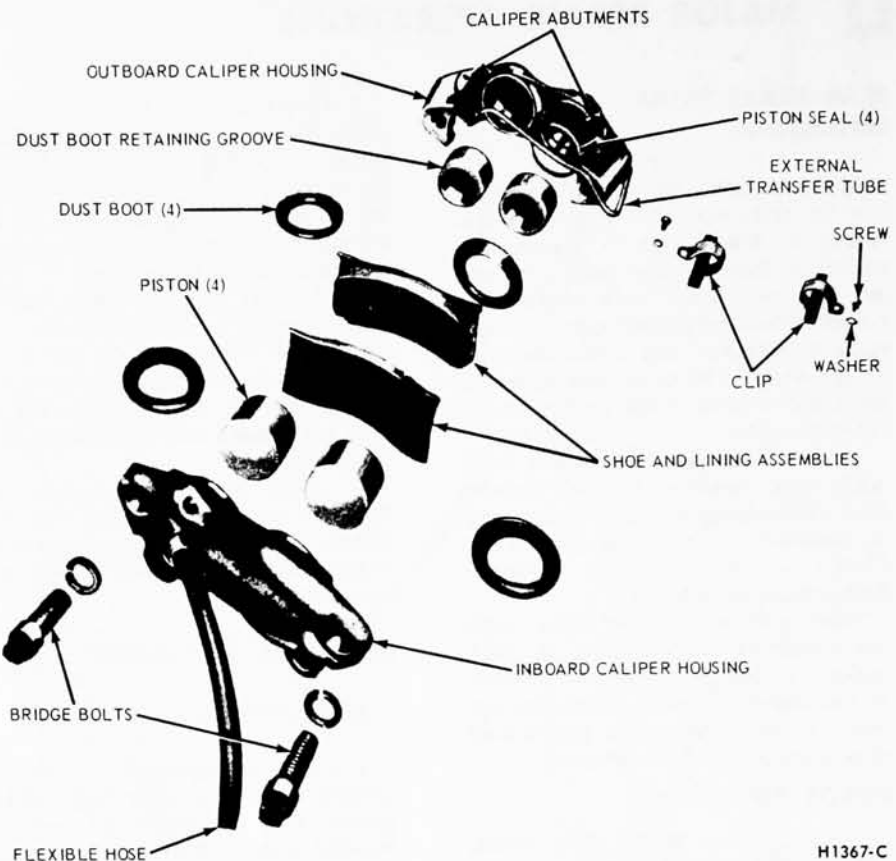

FIG. 22—Caliper Assembly—Disassembled
Do not remove the bridge bolts that hold the two halves of the caliper together. The two caliper housings are shown separated in Fig. 22 for illustration purposes only.
2. Remove the two attaching bolts and the caliper splash shield (Fig. 22).
If a piston is so completely seized in the cylinder bore that it can not be removed with the special tool, force the cylinder out of the bore by positioning two screwdrivers in the piston dust boot retaining groove and prying outward. To prevent cocking, tap the end of the piston lightly around the circumference with a hammer, while the prying force is being applied. Be careful to avoid damaging the dust boot retainer in the caliper housing (Fig. 22). If this method of removal is used, the pistons must be replaced.
a suitable solvent (Fig. 22). Use clean, dry, compressed air to clean out and dry the grooves and passage ways. Be sure that the caliper bore and component parts are completely free of any foreign material.